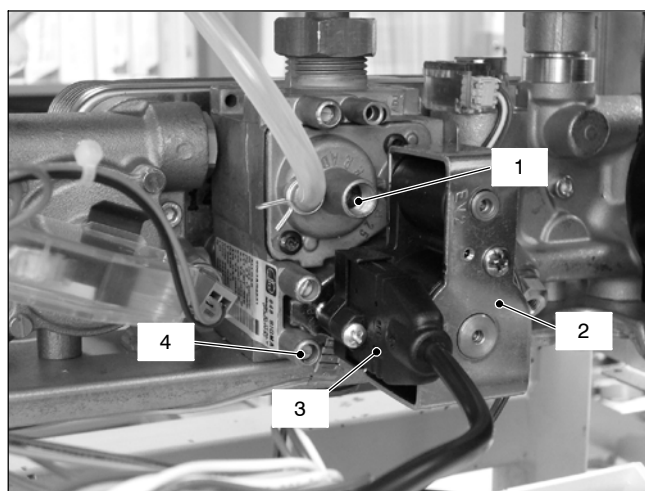

Fig. 11.2
11.2 Description of the parts (Fig. 11.2)
- 3 Loosen the internal screw on the Inlet Pressure Test Point 4 (Fig. 11.2) of the Gas valve and connect a pressure gauge using a suitable hose.
- 10 Disconnect the pressure gauge and close the Inlet Pressure Test Point 4 (Fig. 11.2).
- To adjust the CO₂ % value remove the brass plug by unscrewing it and rotate the plastic screw 1 (Fig. 11.2) (by rotating it clockwise the CO₂ % increases).
- 27 After adjustment fit the protective brass plug (1, Fig. 11.2).
- 2 Disconnect the electrical connector 3 (Fig. 11.2).
- 8 Remove the brass plug and turn the plastic screw 1 (Fig. 11.2) fully clockwise until it stops. Do not overtight.